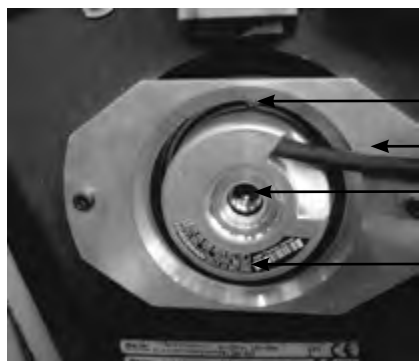

Fig. 7:
Identify the encoder by means of the reference indicated on the encoder label (Fig. 7)
IMPORTANT: Do not dismantle the encoder support piece (Ref. 2 fig. 7) fixed on the brake. It is centremounted in the factory to the nearest 0.1 mm using a special tool.
- Undo (2 turns with a SW2 spanner) the fixing screw on the encoder casing (Ref. 1 fig. 7) in the support piece.
- Tighten the small M2.5 chc screw (Ref. 1 fig. 7) (SW2 torque wrench or screwdriver) on the encoder casing to a torque of 1.25 Nm 0/-0.2 Nm.